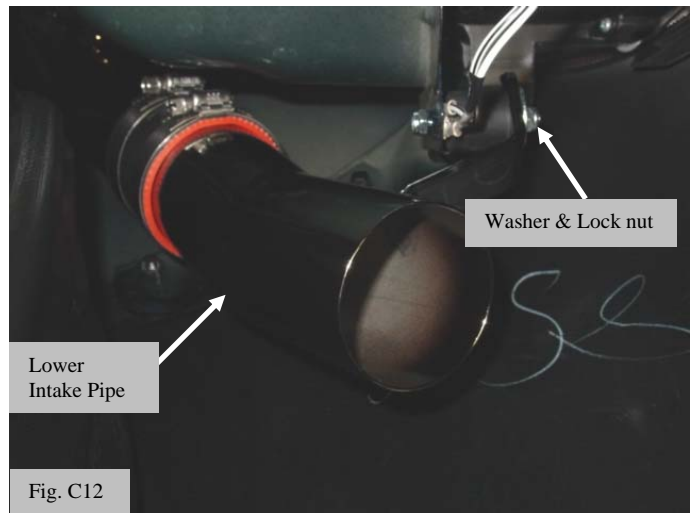

Fig. C12
- i. Make sure the end of the pipe is fully inserted into coupler and that the pipe ends are flush to each other. Do not tighten the clamp at this time. (Fig. C12)
- ii. Secure Lower Intake Pipe mount to rubber mount with a 6mm wide area washer and a lock nut. (Fig. C12)